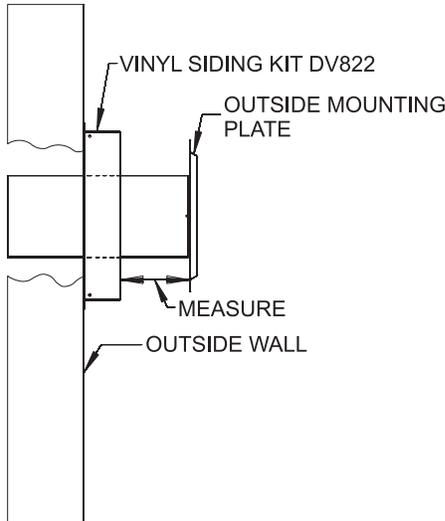

Figure 56
- Attach the 4" (102mm) diameter flue outlet tube onto the rigid venting system or directly to fireplace. Ensure the 4" (102mm) diameter flue outlet tube is placed as far as possible onto the rigid venting system. Mark the 4" (102mm) diameter flue outlet tube 2 1/2" (64mm) beyond the vinyl siding kit or wall. See **Figure 56**. Remove the 4" (102mm) diameter flue outlet tube from rigid venting system. When installing directly to fireplace, tape gasket needs to be used.